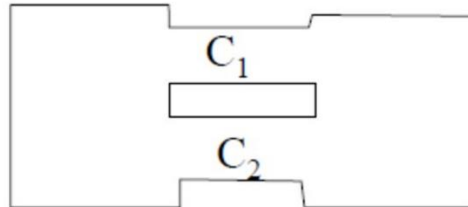

Figure 1 Vacuum system setup in (a) series and (b) parallel.
- (c). Calculate the total conductance for vacuum chamber setup as shown in Figure 1. Given  $C_1 = 5 \times 10^{-5}$  Torr-1s-1 and  $C_2 = 1.5 \times 10^{-5}$  Torr-1s-1.